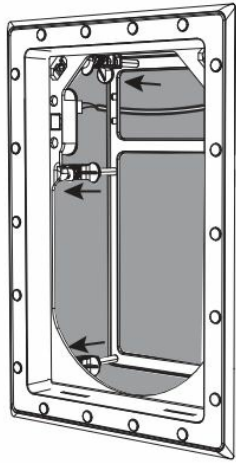

Fig. 11. Frame securely clamped to the Wall
2. Reach inside the frame, and rotate the mounting clamps to the "Clamping" position, where they can exert a clamping force to the rear of the aperture (Fig. 9 and 10). Press the frame in and tighten each clamp, so the frame is secured in position (Fig. 11).